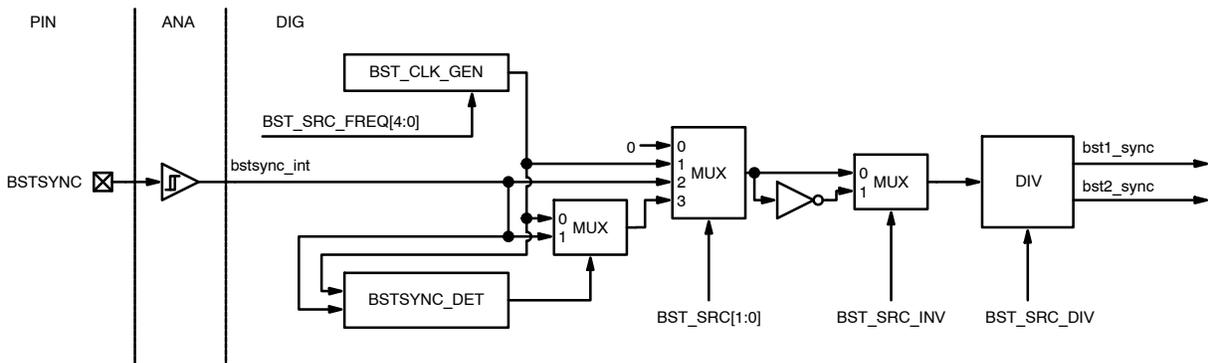
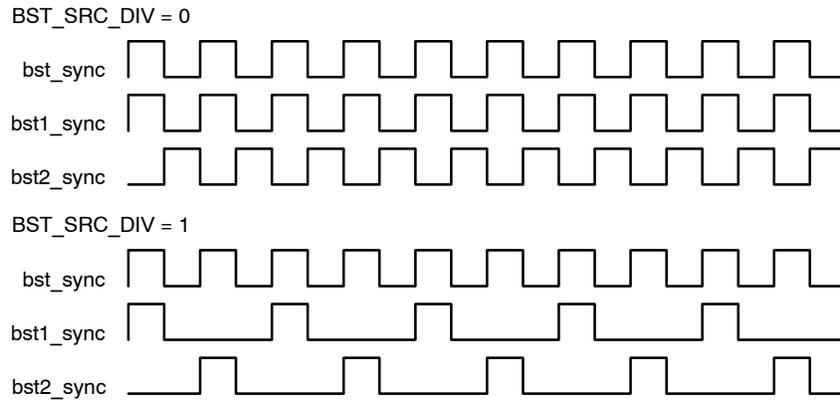

Figure 17. NCV78902 Booster Frequency Generation Block
Figure 18. PWM Generator Clock Divider
When register `BST_SRC = 3`, the automatic booster PWM clock selection is activated. Switch sequence to internal clock is initialized when no rising edge on external source (`bstsync_int` on Figure 17) is detected within 3 consecutive rising edges of internal `bst_sync` clock. For this purpose, internal clock should be set to similar frequency as external source to ensure smooth transitions. Switch sequence to external clock is initialized when rising edge on external source (`bstsync_int`) is detected.
- To synchronize the MOSFET gate PWM clock and needed phase shifts, the boosters must use the external clock generation (BSTSYNC), generated by the board MCU or external logic, according to the user-defined control strategy. The generic number of lines needed is equivalent to the number of devices. When two chips are combined, the slave device shall have BST_SRC_INV bit at '1' (clock polarity internal inversion active), whereas the master device will keep the BST_SRC_INV bit at '0' (= no inversion, default). On top of that, to get four phases with phase shift, the BST_SRC_DIV bit has to be at '1', meaning that gate clock is divided by two (please see Figure 17 and Figure 18 for more details).